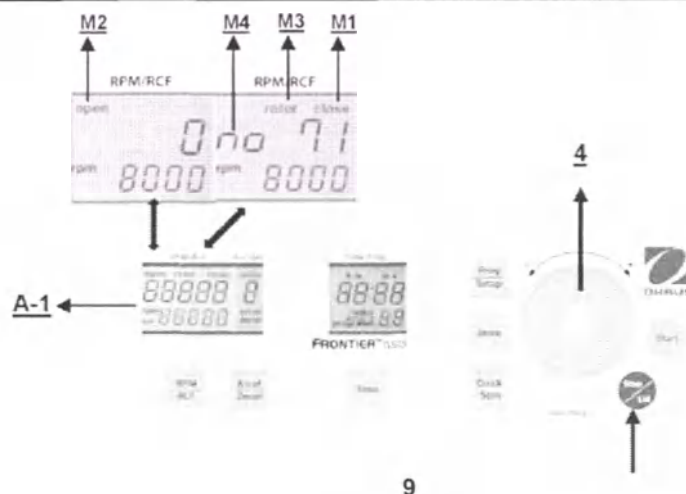

Figure. 15
Before the run, when the lid of the centrifuge is closed, the word **"close"** (M1) appears in the display **"RPM | RCF"** (A-1). Additionally, if there is a rotor in the centrifuge, the word **"rotor"** (M3) appears as well as the code number of the respective rotor, which is in the centrifuge system **"71"** (M4). If there is no rotor in the centrifuge, the word **"rotor"** (M3) flashes and additionally the word **"no"** (M4) appears. By pressing the key **"Stop/Lid"** (9) you can release the lid of the centrifuge. As soon as the lid is completely released, the word **"open"** (M2) appears. Now you can open the lid of the centrifuge. Please refer to figure 15 below for reference.
The lid should only be put down slightly. An lid lock closes the lid, at the same time the word **"open"** (M2) disappears (refer to figure 15).